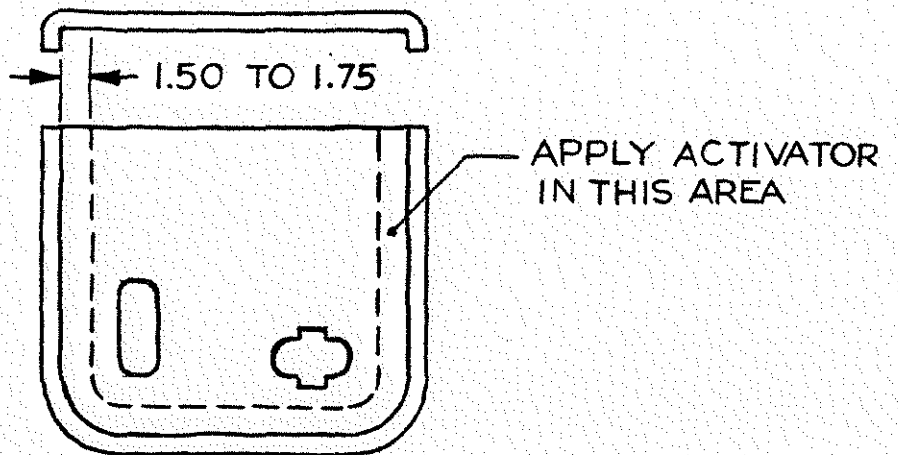

FIGURE 1
1. @ B.L. 0.00, w/s mask is @ Sta. 8.376 & El. 53.250 (Fig. 1)
- 1.) Apply activator to a strip 1.50 to 1.75 wide around the perimeter on the inside surface of the outer door panel (see Figure 1). Wipe off excess leaving a light film of activator on the surface. Allow activator to air dry for one - three minutes. The drying time may be shortened if a fan is used to increase air movement across the area.